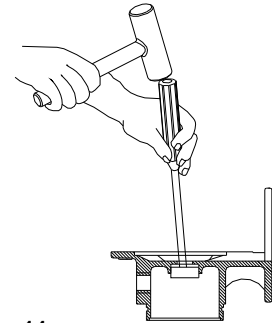

Figure 14
- b. Tap out the ceramic seal and rubber gasket from the recess of the mounting ring (See Figure 14).